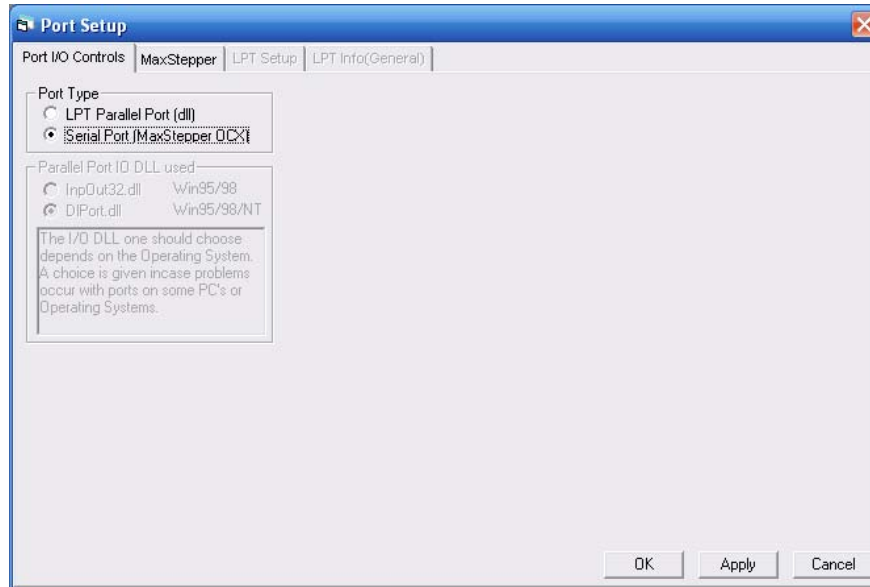

Figure 1
3. Select **Serial Port (MaxStepper OCX)** (Figure 1).